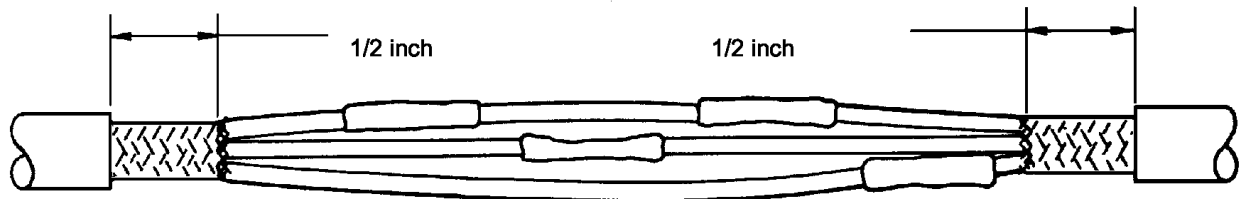

Figure 13. Jacket Scored 1/2 Inch.
l. Carefully score around jacket and along length to be stripped. Do not cut through jacket (Figure 13).